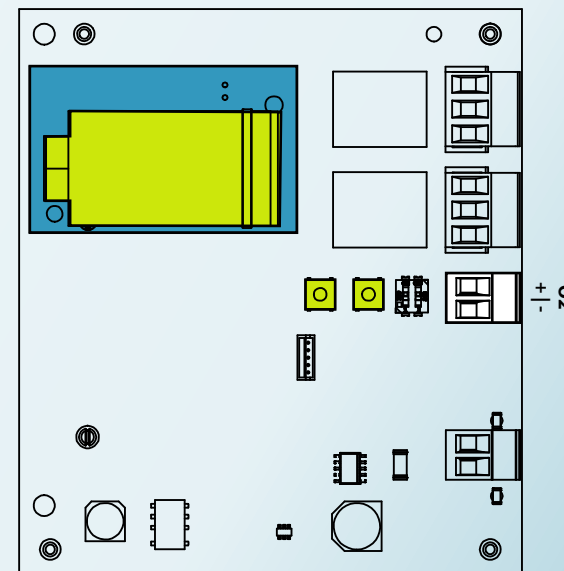

FIGURE 9: Location of SPAN & ZERO Controls
Calibration is a two-step process that provides the sensor module with oxygen-free (or zero) gas, and then a specific concentration (or span) gas. Two calibration buttons (ZERO and SPAN) are provided on the main board as shown in Figure 9.
Ensure that gas is flowing to the sensor, then press and hold the 'ZERO' button (see Figure 9) for 3
1. Apply the SPAN calibration gas to the sensor using a calibration adapter, following the instructions for the calibration kit being used. Ensure that gas is flowing to the sensor, then press and hold the 'SPAN' button (see Figure 9) for 3 seconds until the status LED starts blinking **YELLOW**, indicating that gas sampling is in progress.